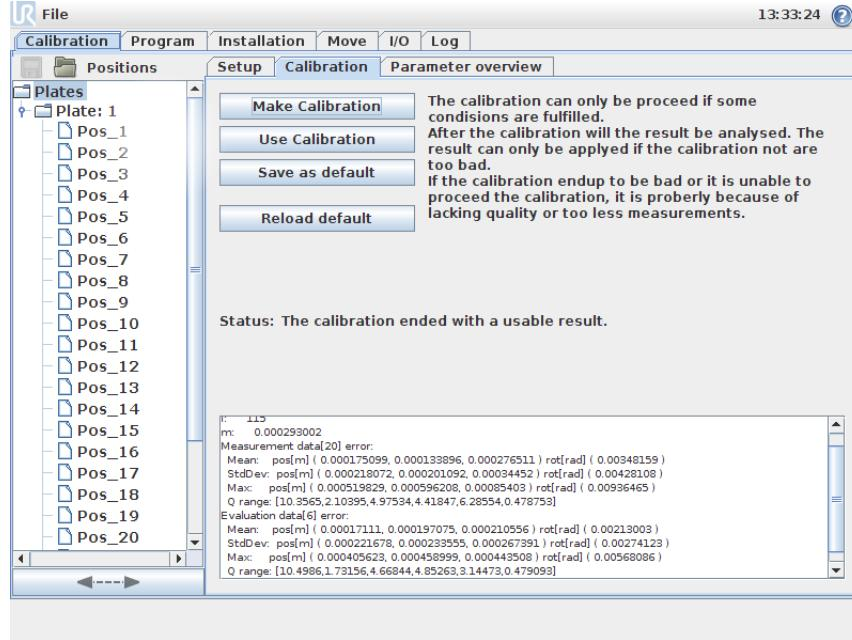

Figure 1.10: The calibration is done and the result needs to be evaluated. Afterwards it is possible to try the new parameters and apply them to the robot.
The results from the calibration are the parameters displayed in the "Parameter overview" tab and the calculated statistics of the archived precision for the given positions. The last part is displayed lower part of Figure 1.10 and is used to evaluate the calibration.
- (18) Try the new calibration without saving them as the default by press "Use Calibration", see Figure 1.10.
- (20) Save the calibration for future use by pressing "Save as default", see Figure 1.10.
- (21) The Robot is know calibrated.